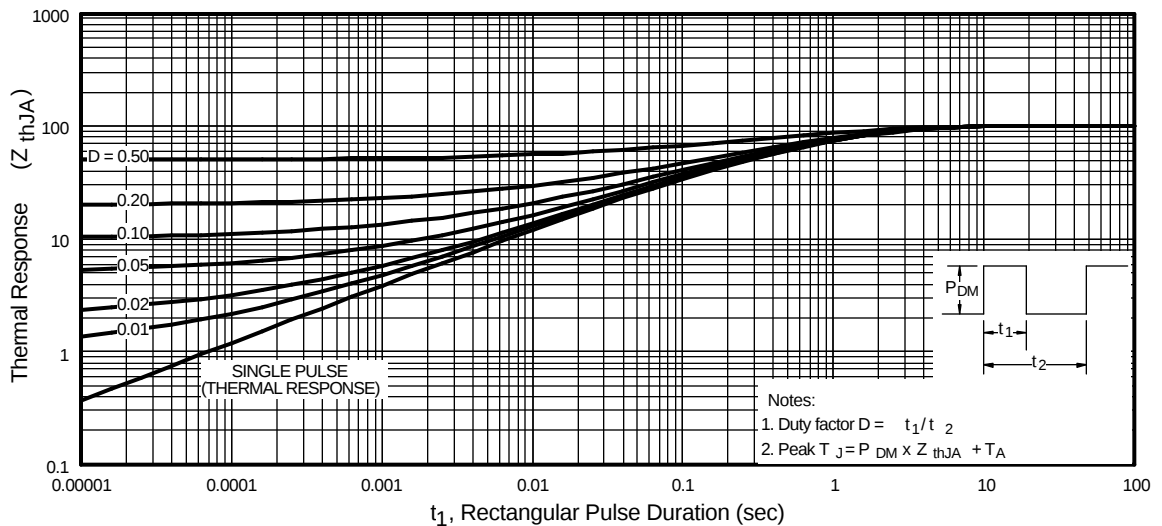

Fig 11. Maximum Effective Transient Thermal Impedance, Junction-to-Ambient
① Repetitive rating – pulse width limited by max. junction temperature (see fig. 11)
② $I_{SD} \leq -1.2A$, $di/dt \leq -140A/\mu s$, $V_{DD} \leq V_{(BR)DSS}$, $T_J \leq 150^\circ\text{C}$ ③ Pulse width $\leq 300\mu s$ – duty cycle $\leq 2\%$ ④ Surface mounted on FR-4 board, $t \leq 10sec$.